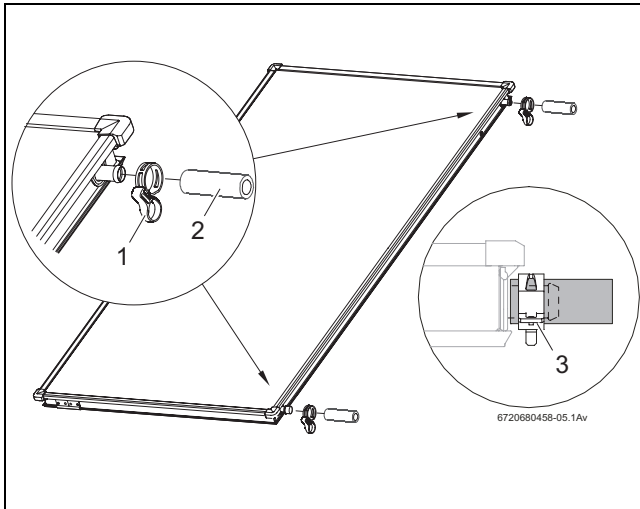

Fig. 38 Fitting the joining set
- ▶ Push 95 mm solar hoses (Fig. 38, [2]) onto the r.h. connections of the second collector.
- ▶ Push hose clips (Fig. 38, [1]) over the solar hose (the second clip later secures the connection of the other collector).
- ▶ Once the hose clip is seated correctly, pull the locking ring to secure the connection (Fig. 38, [3]).